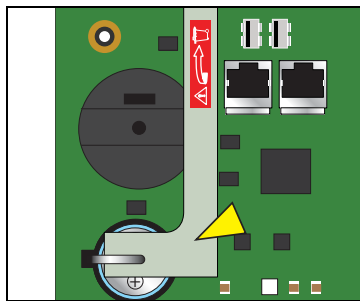

Figure 16. Remove TLS-450PLUS CPU Board Battery Isolator Strip
3. Remove the battery isolator strip from under the battery hold-down clip (see Figure 16).